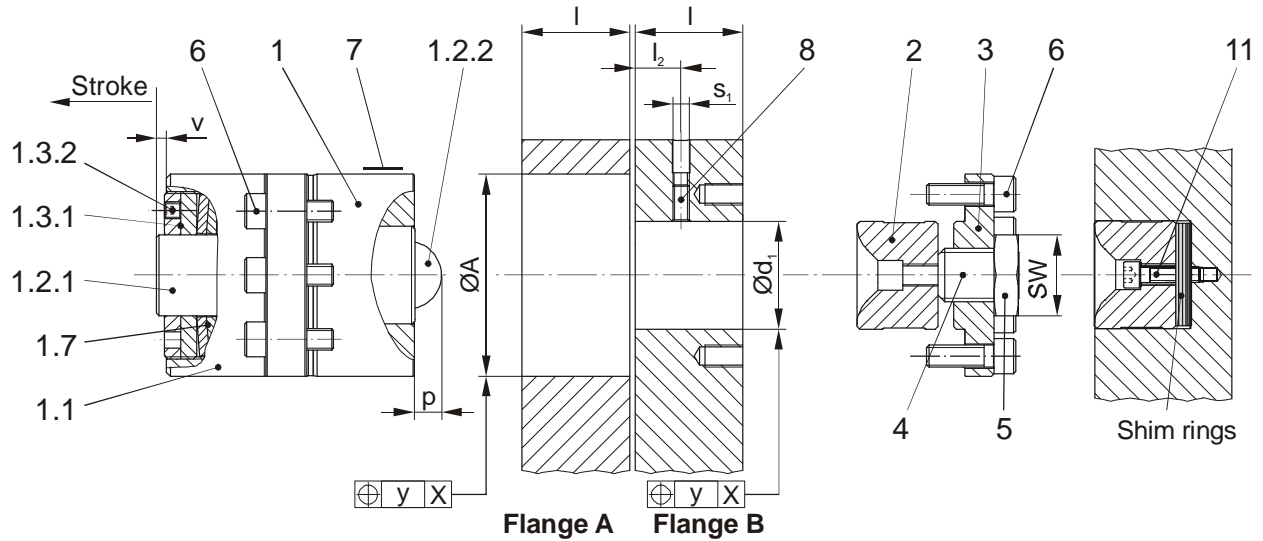

Fig. 1 (Sizes 0 - 2)
- The adaptor bores and the threaded holes for the EAS[®]-element are to be designed according to Figs. 1 to 4 or Tables 4 and 5.
- Please keep to the maximum permitted position deviation "y" according to Fig. 1 and Table 1.
- Before installation, please check whether the elements (1) are engaged. Please observe inspection dimension "p" according to Figs. 1 and 4 or Table 1. The EAS[®]-elements are delivered ex-works in engaged condition. However, on an uninstalled EAS[®]-element, the bolt (1.2.1) may move in the direction of the steel ball (1.2.2).